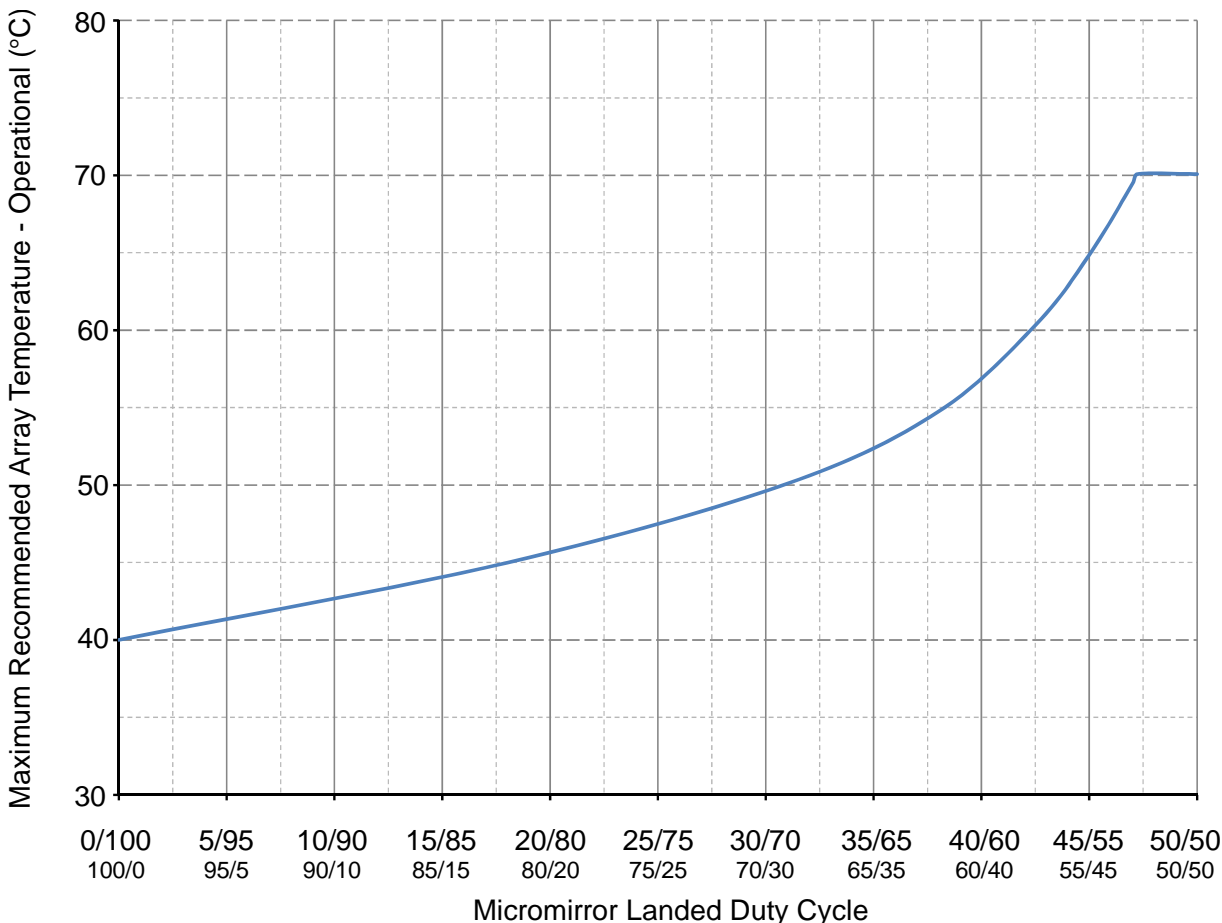

Figure 1. Maximum Recommended DMD Temperature – Derating Curve
- (12) Long-term is defined as the average over the usable life.
- (13) Per Figure 1, the maximum operational array temperature should be derated based on the micromirror landed duty cycle that the DMD experiences in the end application. See *Micromirror Landed-on/Landed-Off Duty Cycle* for a definition of micromirror landed duty cycle.
- (14) Array temperatures beyond those specified as long-term are recommended for short-term conditions only (for example, power-up). Short-term is defined as cumulative time over the usable life of the device and is less than 500 hours.